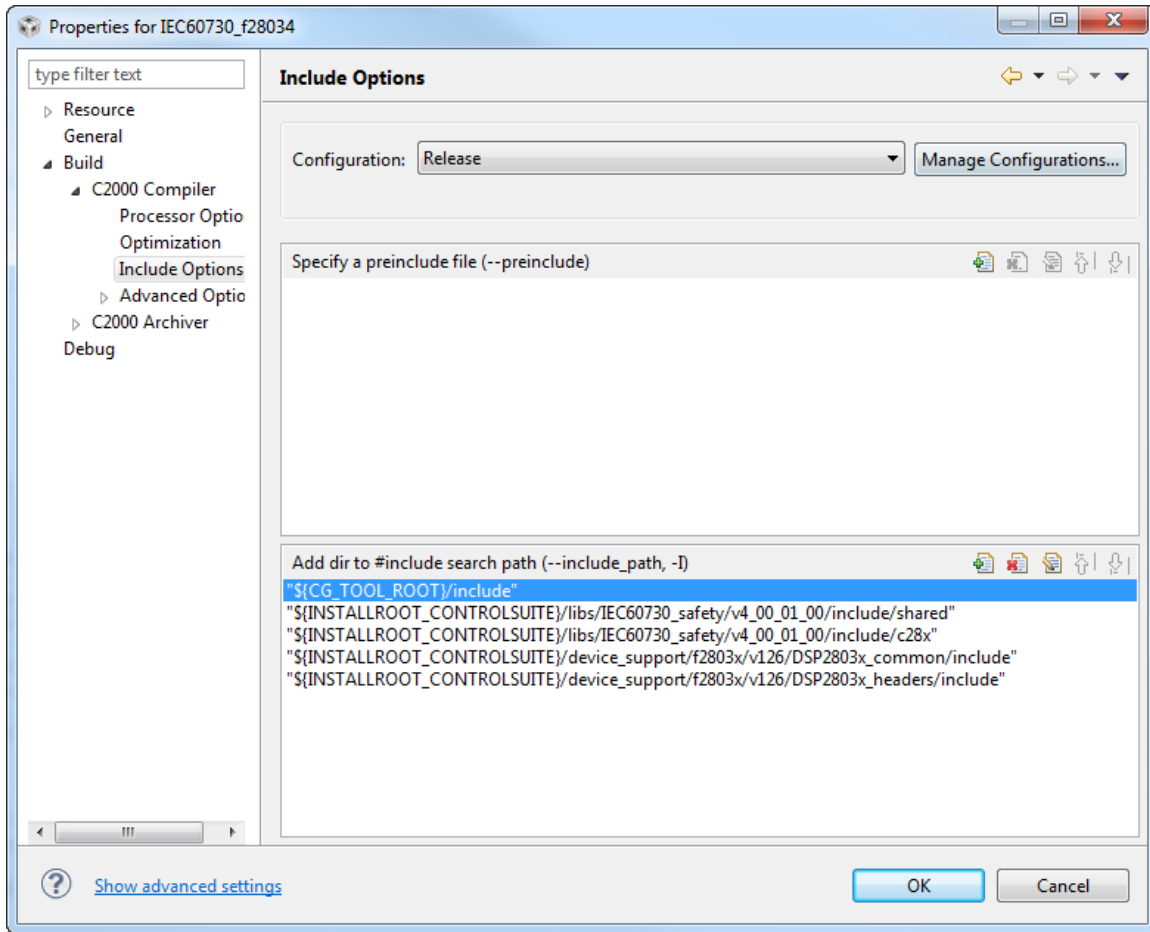

Figure G.2: Adding Header File Directory
7. Add the search path to the version header files required by the source files. Click on **Projects** menu > click on **Properties** > expand to **Build** > **C2000 Compiler** > **Include Options**. Add the following in the **Add dir to #include search path** window. See figure G.2. For example for this library build v126 of the header files and v4_00_01_00 of the safety library was used.